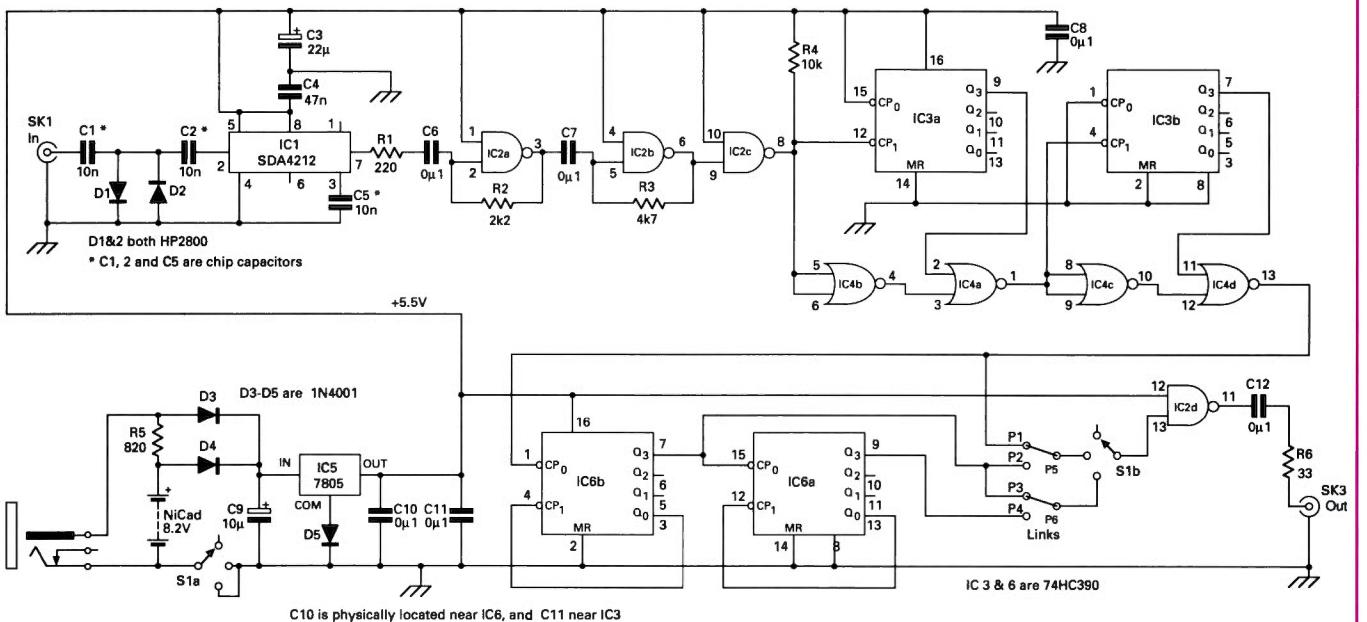

Fig. 2: Circuit diagram of the 1.2GHz pre-scaler.
The diagram, Fig. 2, shows the circuit of the pre-scaler. It's based on an application circuit, published in the Siemens company's house magazine, (ref. 1).
The output is applied to two cascaded divide-by-10 stages, comprising of IC6. With the links P1-P5 and P3-P6 as shown in Fig. 2, the three-position switch, S1, gives a choice of divide-by-100, divide-by-1000 and off.